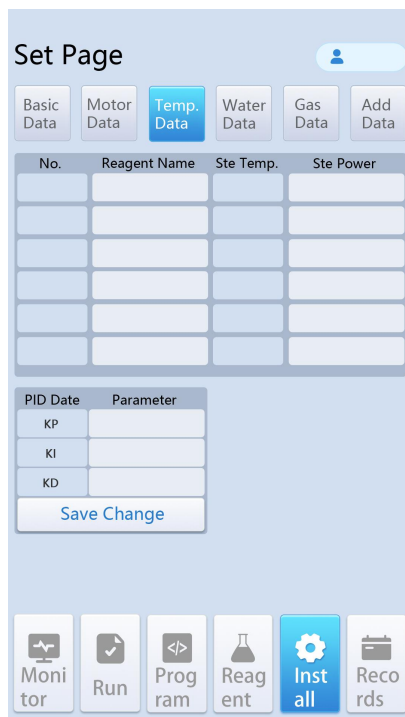

Figure 15 Temperature parameter interface
3. Temperature parameter: This interface is used to set the temperature of the oven, as shown in Figure 15. The specific operation mode is as follows